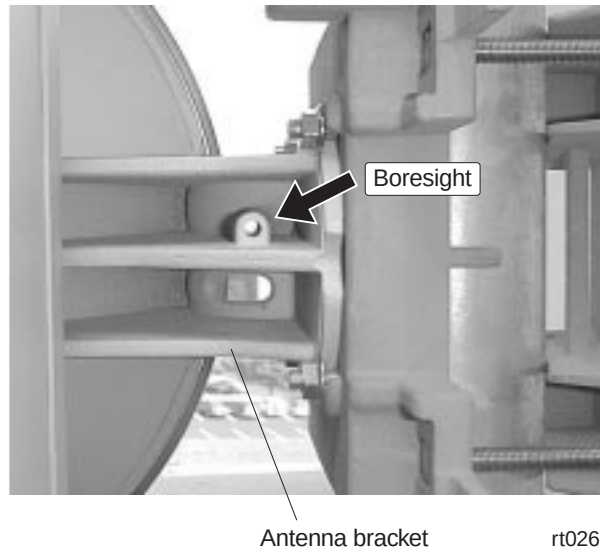

Figure 6-14 Boresight location
1. Using the antenna boresight for reference (see figure 6-14), rotate the antenna mount (and antenna) around the mast until you can see the HT in the boresight.